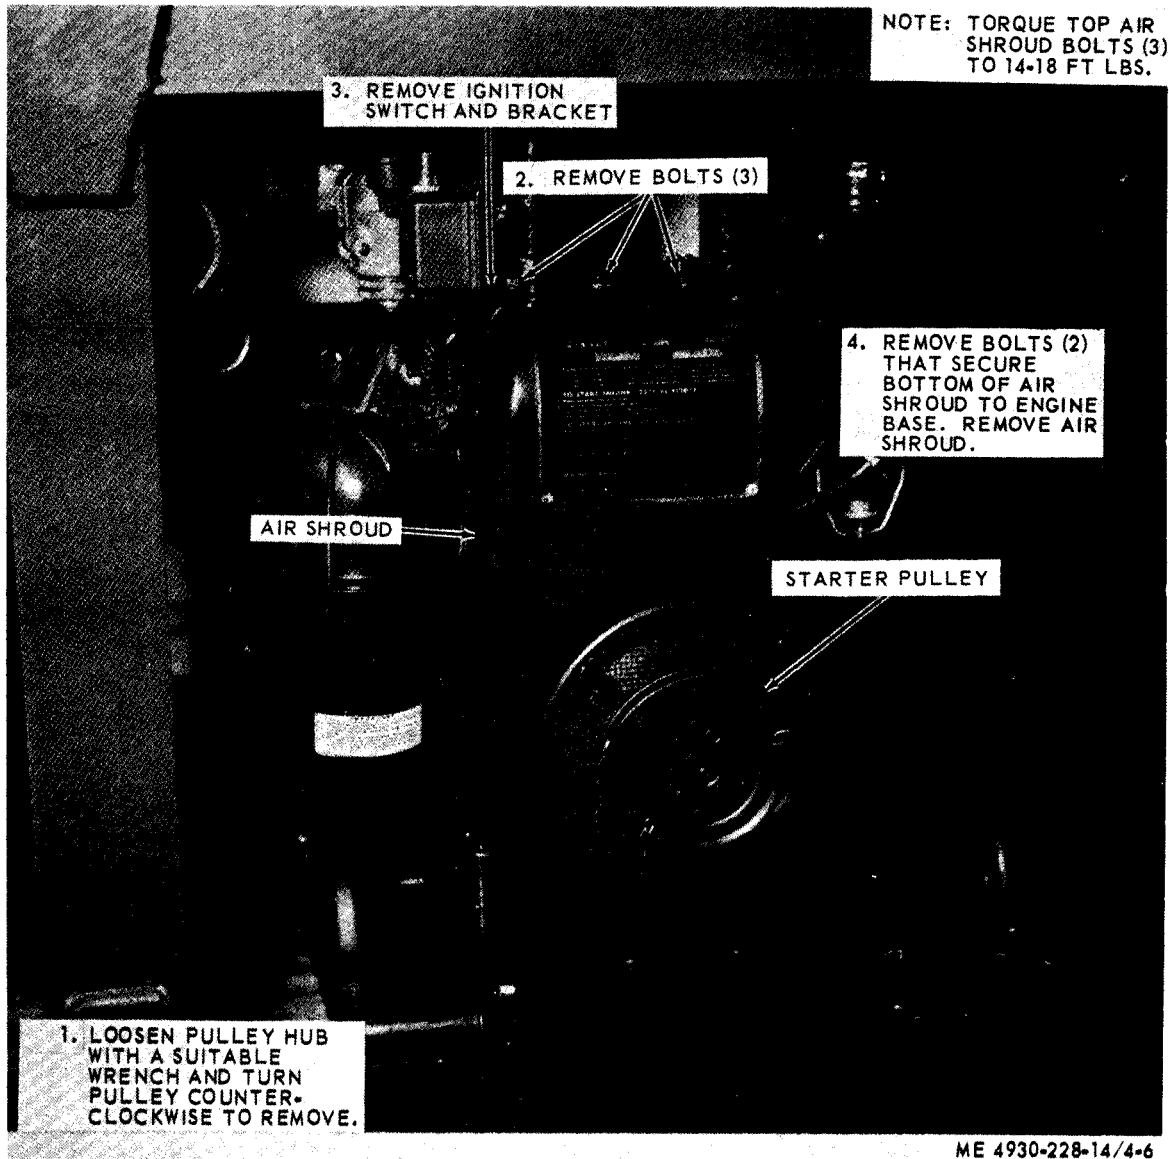

Figure 4-6. Starter pulley, air shroud, and ignition switch bracket, removal.
a. *Removal.* Refer to figure 4-6 and remove the starter pulley.
- (1) Clean the pulley thoroughly.
- (2) Inspect the pulley for cracks, breaks, damaged threads, and other damage.
c. Installation. Refer to figure 4-6 and install the starter pulley. (Installation procedure is reverse of removal).
- (1) Remove the starter pulley (para 4-17).
- (2) Refer to figure 4-6 and remove the air shroud, ignition switch, and bracket.
- (1) Refer to figure 4-6 and install the air shroud, ignition switch, and bracket (installation procedure is reverse of removal).
- (2) Install the starter pulley (para 4-17).